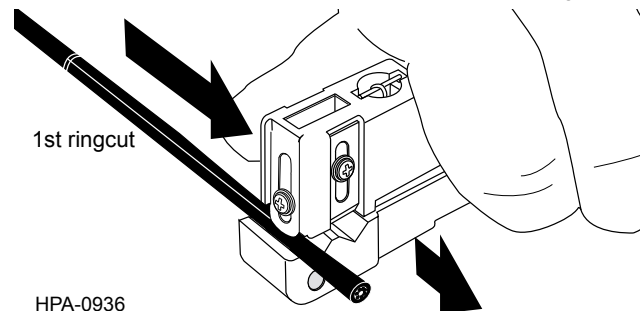

Figure 4
Step 6: Using the rounded blade on the end of the Ideal tool, make a longitudinal cut from the first ring cut to the end of the cable (Figure 4).